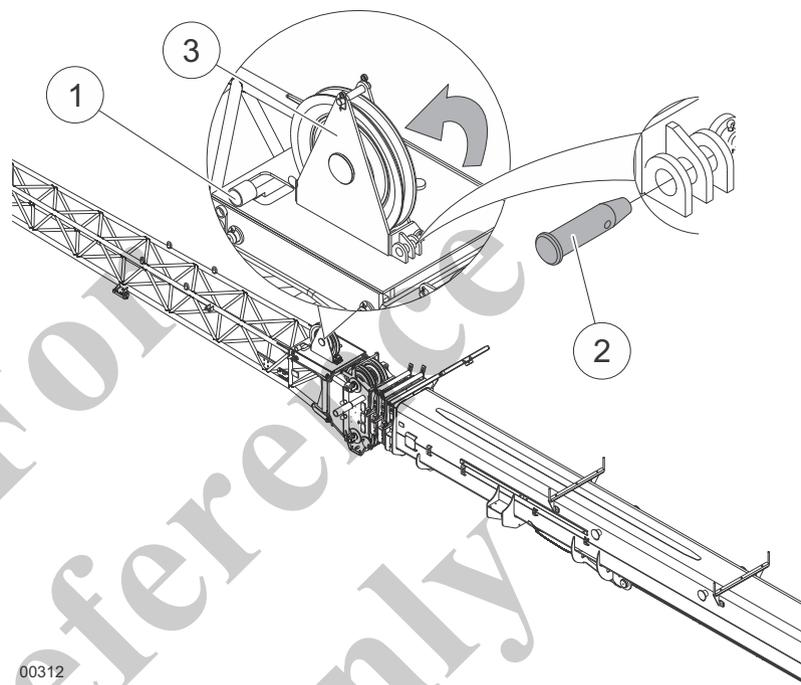

Fig. 130 Folding up the deflection sheave
22	Remove the bolt (2) in Fig. 130 from the retainer (1) in Fig. 130.
23	Fold up the deflection sheave (3) in Fig. 130.
24	Bolt down and secure the deflection sheave with the bolt (2) in Fig. 130.